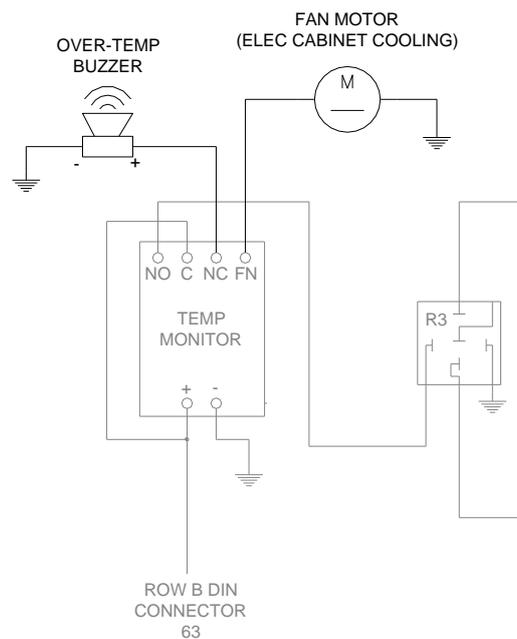

Figure 2: Wiring diagram for fan and buzzer installation
- Step 7:** Check the connections you have made comply with those given in Figure 2. If they are correct, re-connect the truck batteries, turn the ignition keys and PTO switch on.